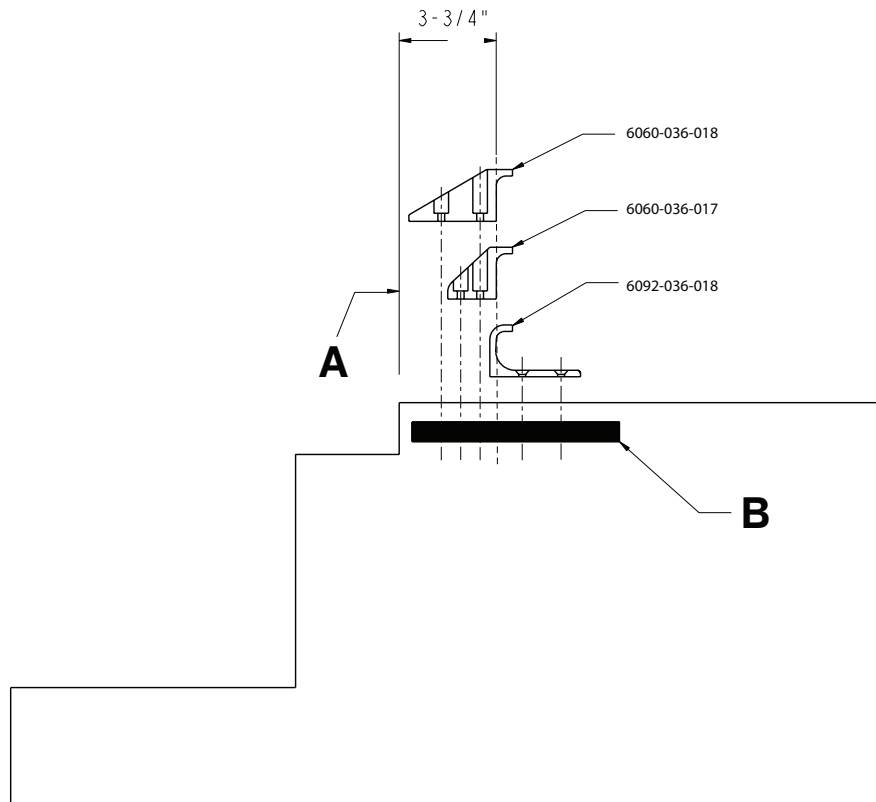

Figure 8 – Vehicle safety hook placement
2. Position the vehicle safety hook at least 3-3/4 in. from the leading edge of the door sill (A) (Figure 8). The recommended distance from the face of the safety hook is no less than 3-3/4 in.